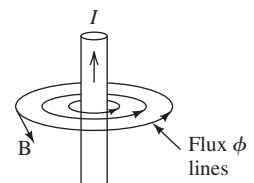

FIGURE 12.2 Magnetic field around a wire.
Magnetic fields are created around current-conducting wires and permanent magnets. The field is created by electrical charges in motion. In a permanent magnet, this charge in motion is caused by the spin of electrons in the atoms. If the direction of motion of each electron is random, the atomic fields created by the random movement will cancel each other, and the overall structure will not have any magnetic property. If all electrons spin in the same direction, the atomic fields aid each other, producing a net external effect. This produces a magnetic property in the structure. In a wire, the field is created by the flow of charges (i.e., current) in the wire. The magnetic field can be visualized as lines of magnetic flux that form closed paths. Figure 12.2 represents a magnetic field (flux lines) created around a wire that carries current.
Vector $\mathbf{B}$ represents the magnetic flux density, in webers per square meter (Wb/m²) or teslas (T). The flux density, vector $\mathbf{B}$, has a direction tangent to the flux lines as shown in Figure 12.2. Vector $d\mathbf{A}$ is the increment of area on the surface. Here, $d\mathbf{A}$ is perpendicular to the surface. If the magnetic flux density is constant over the surface and perpendicular to the surface, using Equation (12.1), the flux can be simplified to: